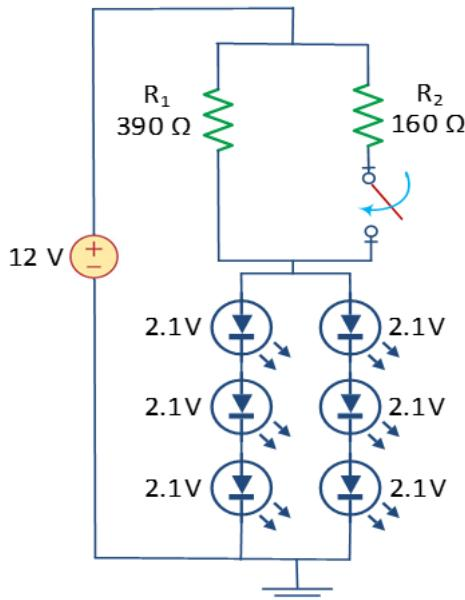

Figure 2.5. Stop-rear lights of a car.
**B.3** Set up the circuit in Figure 2.5 (which is the one you should have designed in **A.3**). Use the digital multimeter to measure the voltages and currents in **REAR POSITION mode**. Write the values in the Table below.